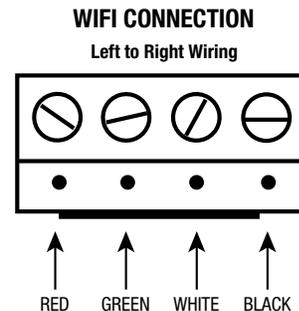

Figure 8. RS-485 Wiring
2. Connect four (4) separate wires to each terminal (Figure 8).